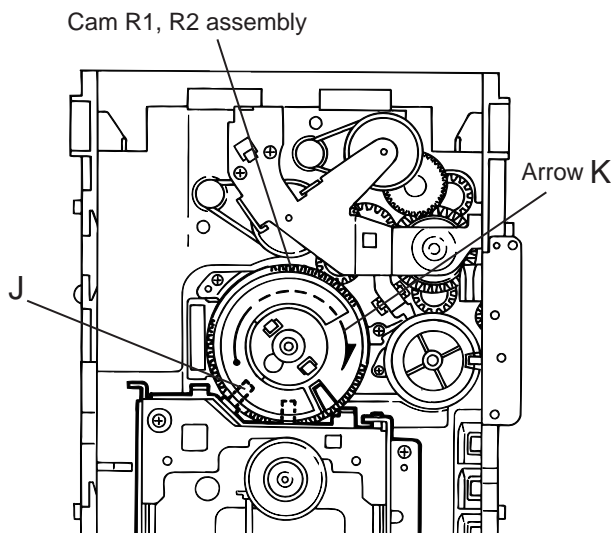

Fig.11
**■ Removing the CD traverse mechanism (See Fig.11 and 12 )**
1. For dismantling only the CD traverse mechanism without removing the CD loading mechanism assembly, align the shaft “J” of the CD loading mechanism assembly to the position shown Fig.11 while turning the cam R1 and R2 assembly in the arrow direction “K” .